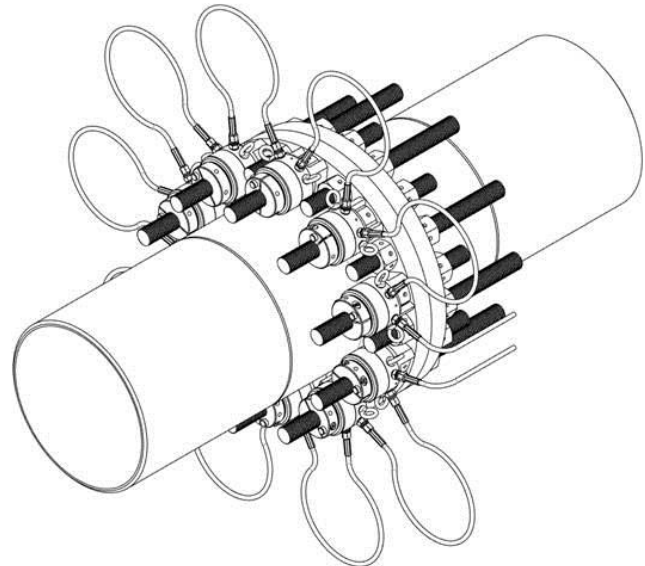

Figure 6b:
- 4.3.2.** Figure 6b illustrates a typical harness assembly for 50% tensioner coverage).